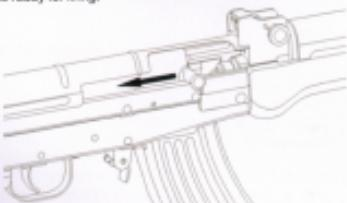

Fig. 7 Pull the bolt backward to feed a cartridge into the chamber
3.4.1.5. Pull the bolt to the rearmost position and then release it (see Fig 7). The bolt moves quickly forward under the action of the return spring and pushes a cartridge into the chamber at the same time, getting the rifle ready for firing.
3.5.3. Set the safety selector to the "F" position. Pull the bolt to the rearmost position (see Fig. 7), check to make sure that there is no cartridge inside the chamber. Prompt: If there is a cartridge therein, that action will drag it out.